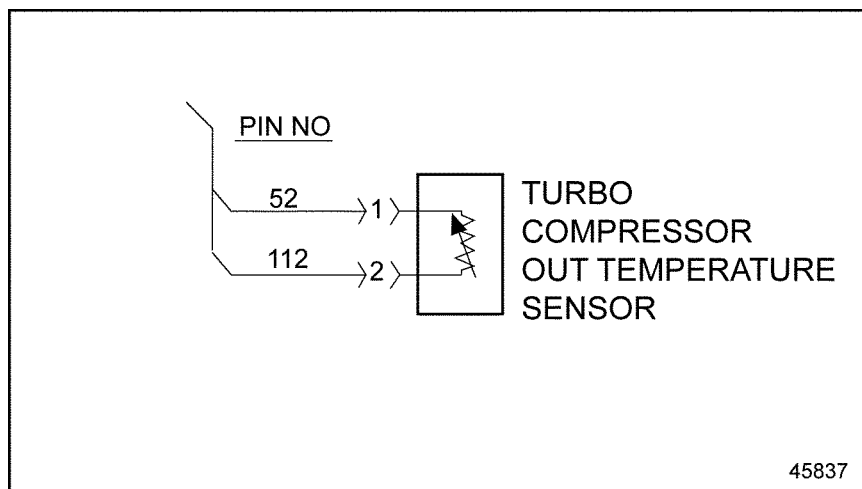

Figure 91-2 Turbo Compressor Outlet Temperature Sensor
- [a] If the resistance is less than 5k Ω , repair the short between the 120-pin MCM connector wire 52 and 112. See Figure 91-2. Refer to section 91.2.1.1.